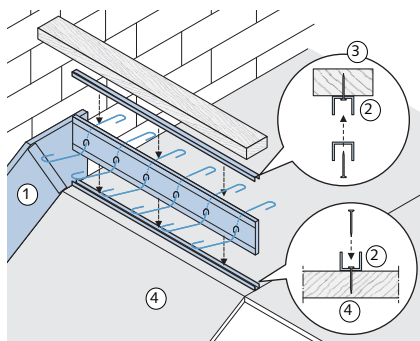
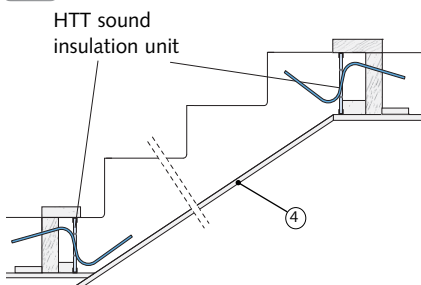

Figure 1: Assembly scheme for in-situ cast elements
Figure 2: Formwork in the precast plant
- ▶ formwork according to figure 2
- ▶ fix the HTT Impact sound insulation unit with the nailing bars (included) as shown in figure 1
Support design (figures 1–4)
► Landing supports can be designed as shown in figure 1 or figure 2
► Landing support design as shown in figure 2 also requires the installation of HTPL Impact sound insulation plates towards the staircase walls (page 9).